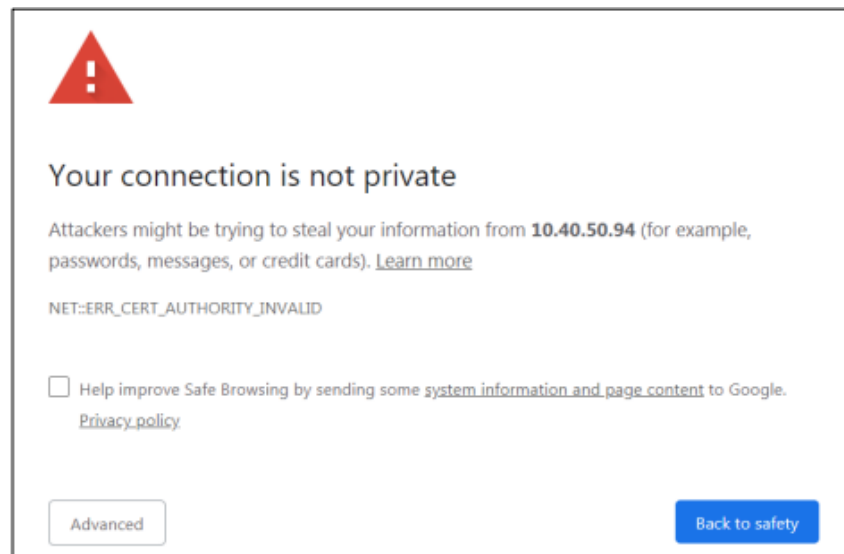

Figure 14 Your Connection is Not Private.
- When the warning that “Your connection is not private” appears, click the Advanced button on the bottom left corner of the screen as shown in figure 14.